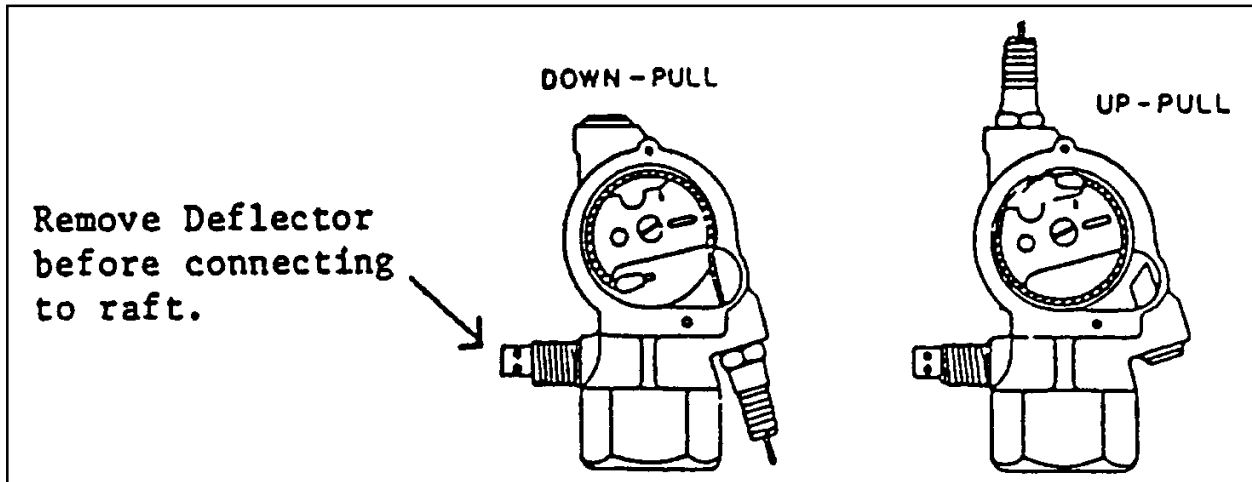

FIGURE 9-12. Inflation valve.
(1) Remove the screws that attach the cover plate to the valve and remove the cover plate.
(2) Inspect the firing line cable ball swage for engagement in the correct recess for either “Upward Pull” or “Downward Pull.” The cable will be wrapped around the sheave approximately 270 degrees.
(3) Reposition the cable ball swage as required. (See figure 9-12.)
(4) Replace the cover plate. The green dot on the sheave should be visible through the window in the cover plate, indicating a charged cylinder.
**f. Make sure the safety deflector** is removed from the cylinder outlet before connecting the cylinder to the raft. (See figure 9-12.)